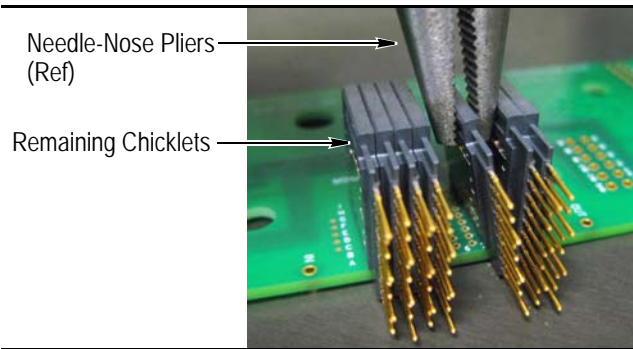

Figure 4
4. Deflect, and use the needle-nose pliers to remove, each remaining chicklet. See Figure 4.